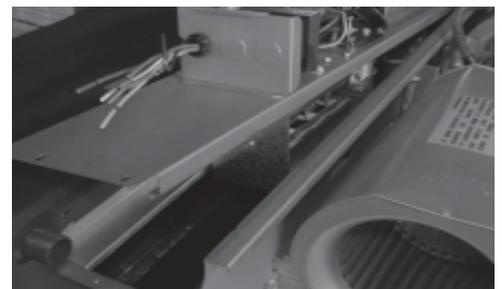

Fig. 2 - Control box installation
3. Detach the unit control box from the fan coil by removing the (4) screws that attach the control box to the fan coil. Do not remove the blower motor wires.
7. Secure the completely assembled fan coil control box to fan coil with screws. See fig. 2.